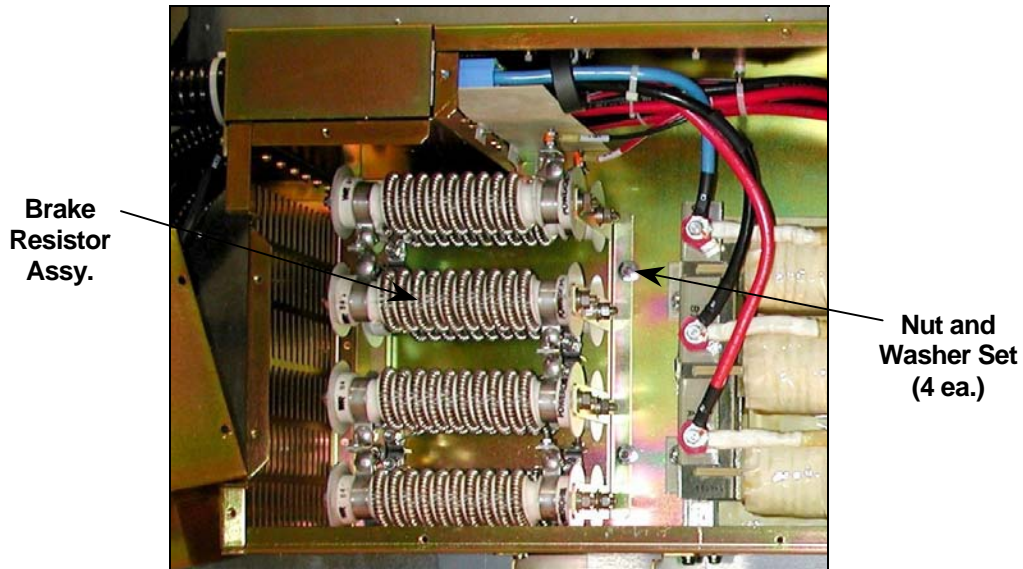

Figure 3. Removing Brake Resistor Assembly
6. Remove the four sets of nuts and washers (two on each side) that hold the Brake Resistor Assembly in place using a 10 mm socket wrench (see Figure 3).